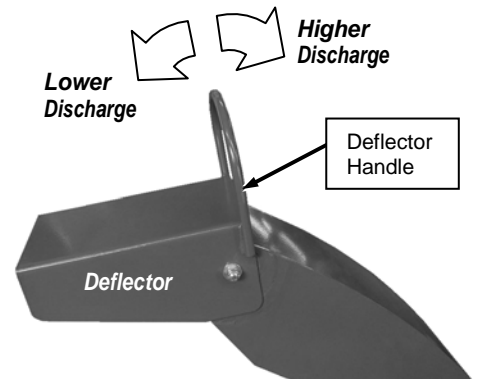

Figure 67
1. Grab the Deflector Handle and rotate the Deflector to the desired discharge position (**Figure 67**).